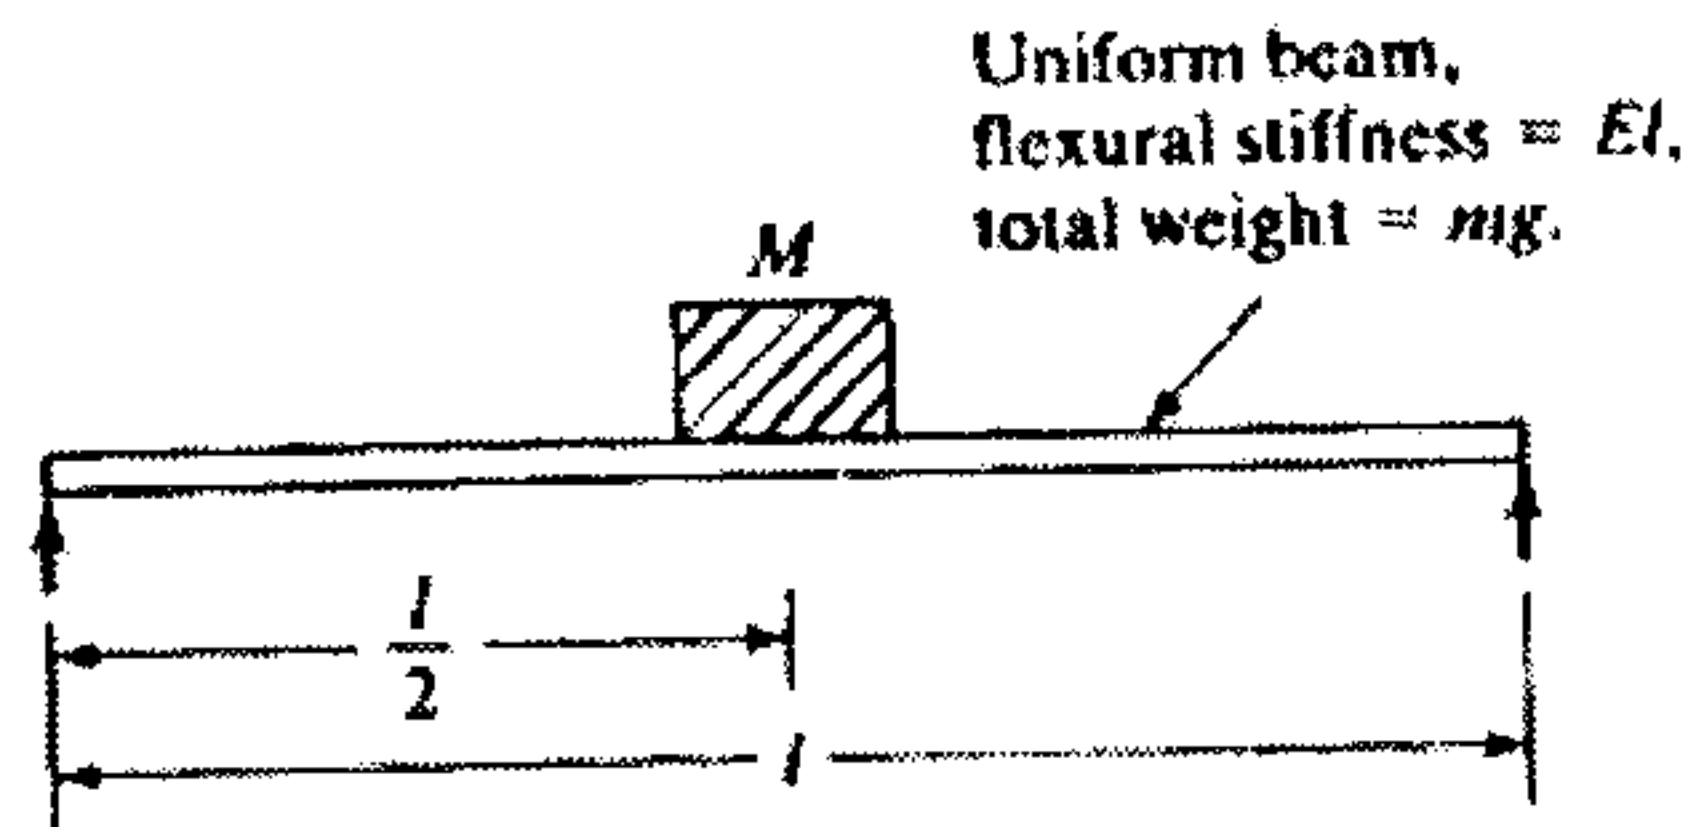

Fig 1
1. a) Determine the effect of self weight on the natural frequency of vibration of the pinned-pinned beam shown in Fig 1.